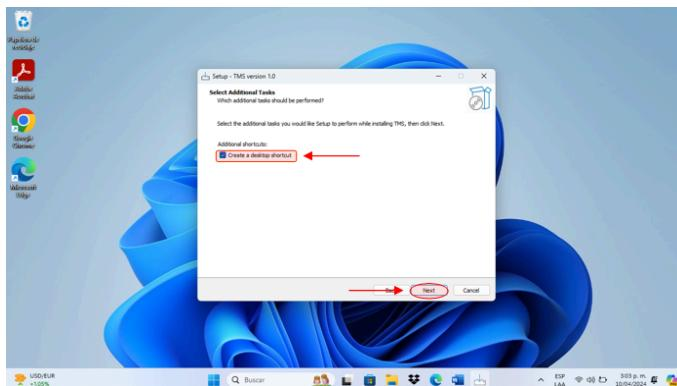

Figure 6. Additional tasks.
- V. Select “*Create a desktop shortcut*” and click “*Next*”. The fields to select are shown in *Figure 6*.